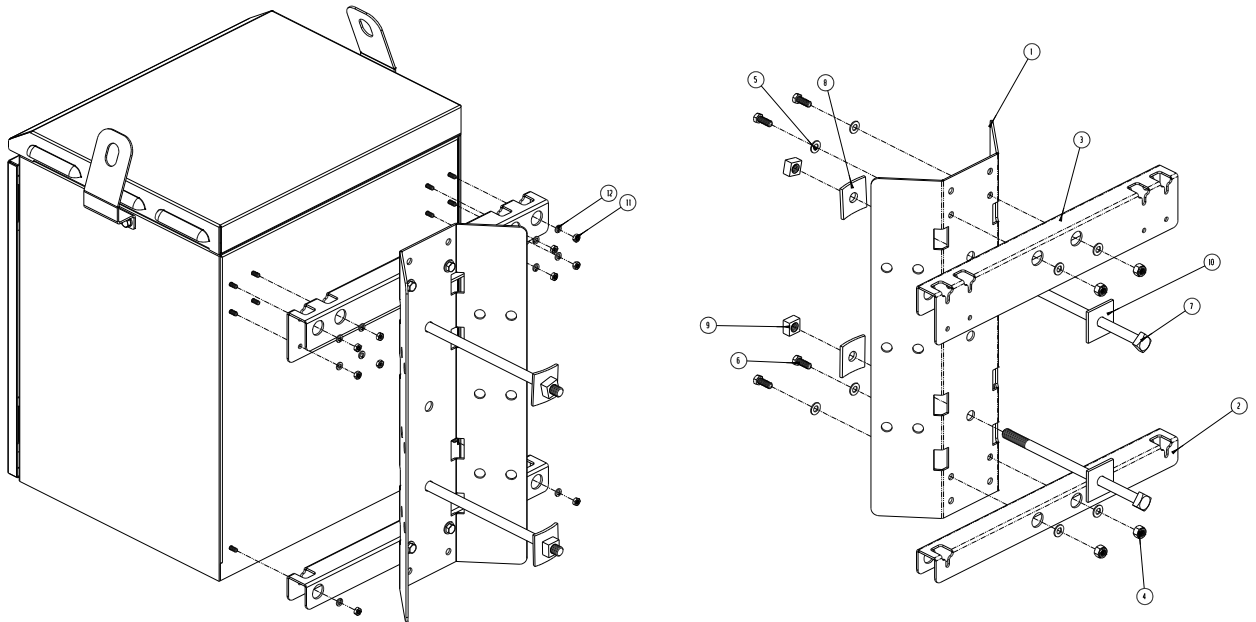

Figure 2 Pole Mounting Kit Assembly
1. Pre-assemble the upper and lower horizontal brackets to the vertical bracket as shown in Figure 2.
3. Position the mounting bracket assembly against the pole and mark on the pole the location of the two (2) 5/8" bolts.